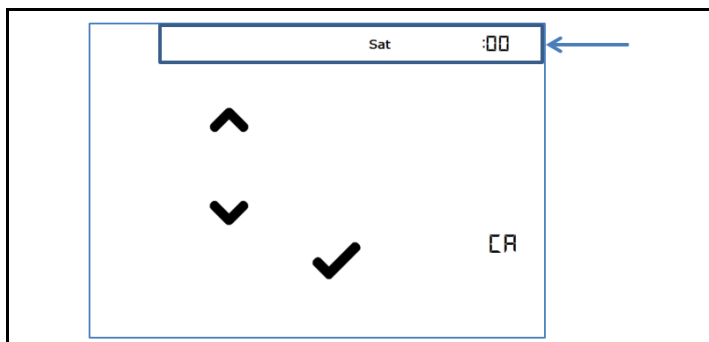

Figure 3-18 - Time and Day Settings
- The second step (see *Figure 3-18*) is the hour field that will be flashing on the top right of the screen. To change the hours, press either the up or down arrow to the desired value, and then press the check icon to go to the next parameter.
- The third step (see *Figure 3-18*) is the minutes field that will be flashing on the top right of the screen. To change the minutes, press either the up or down arrow to the desired value, and then press the check icon to go to the next parameter.
- The last step (see *Figure 3-18*) is the day of the week that will be flashing at the top of the screen. To change the day of the week, press either the up or down arrow to the desired value, and then press the check icon to save the changes. Press CA to cancel and return to the normal display without saving any changes.